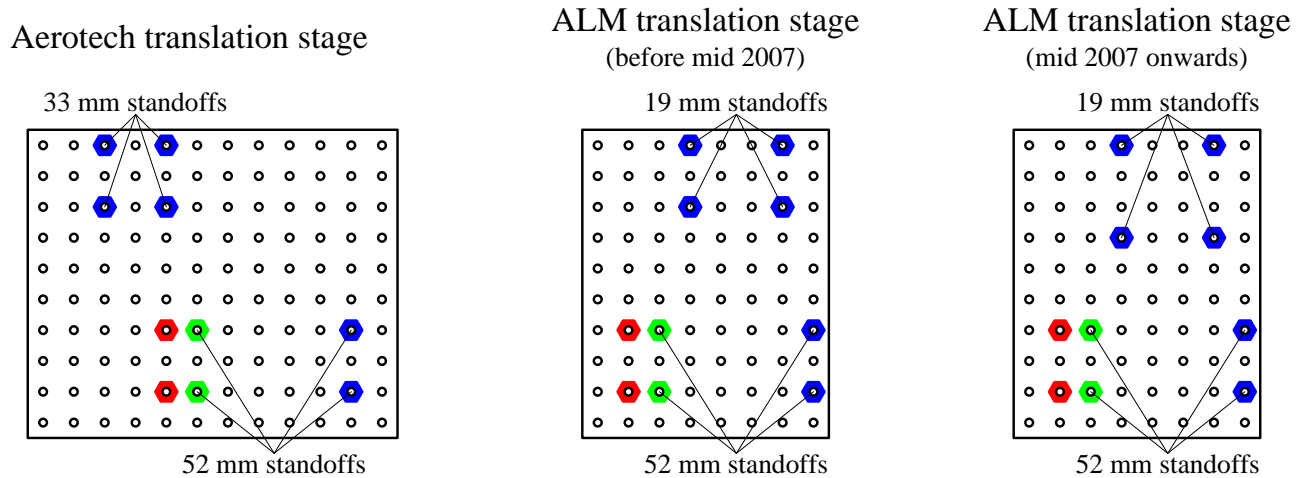

Figure 1: Positions for attaching hex standoffs to the base plate for the Aerotech and ALM translation stages.
1. Attach four 33 mm [Aerotech] or 19 mm [ALM] and four 52 mm long hex standoffs on the base plate using  $\frac{1}{4}$ -20 $\times$  $\frac{3}{4}$ " set screws in positions shown in Figure 1. Make sure the set screws do not project below the bottom of the plate. For the standard Automatic Loader, use the green and blue positions for the 52 mm standoffs; use the red and blue positions for the Wide Option Automatic Loader. Note that some ALM systems have a different arrangement for the standoffs under the translation stage so might look a little different from Figure 1. However, the purpose of the standoffs is to align the ends of the faceplates with the slot between the shim plates – if the wrong positions are used for the standoffs the misalignment will be obvious.